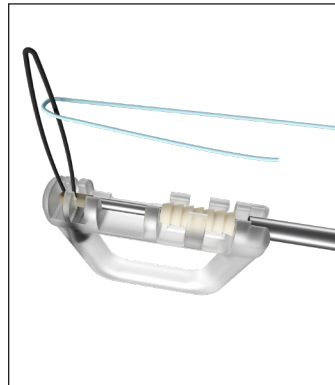

Figure 4.3
**b)** Select the preferred suture to be utilized for the repair (Table 1). Typically, one strand of #2 UHMWPE suture is utilized for most techniques. Load one tail of the selected suture through the suture loop on the implant cartridge (Figure 4.3). When the cartridge is removed in the next step (c), the suture loop will pull the suture through the PEEK eyelet. If one end of the suture contains a needle, then pull the end without the needle through the loop and into the eyelet.